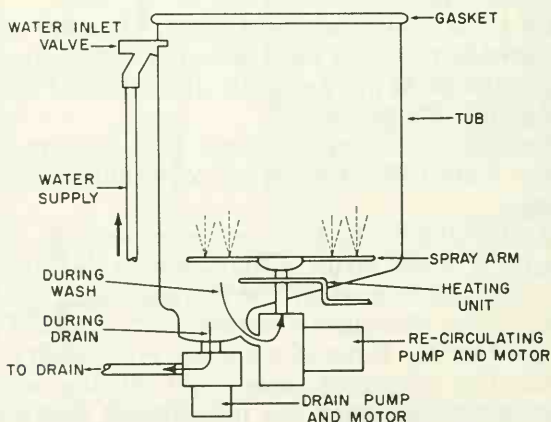

Fig. 6-5. Spray-arm circulating-pump dishwasher.
Fig. 6-5 is a block diagram of a spray-arm circulating dishwasher. The main differences between this type and the impeller type are: (1) a separate motor for each of two pumps, a recirculating pump and a drain pump; and (2) the spray arm which replaces the main motor impeller.